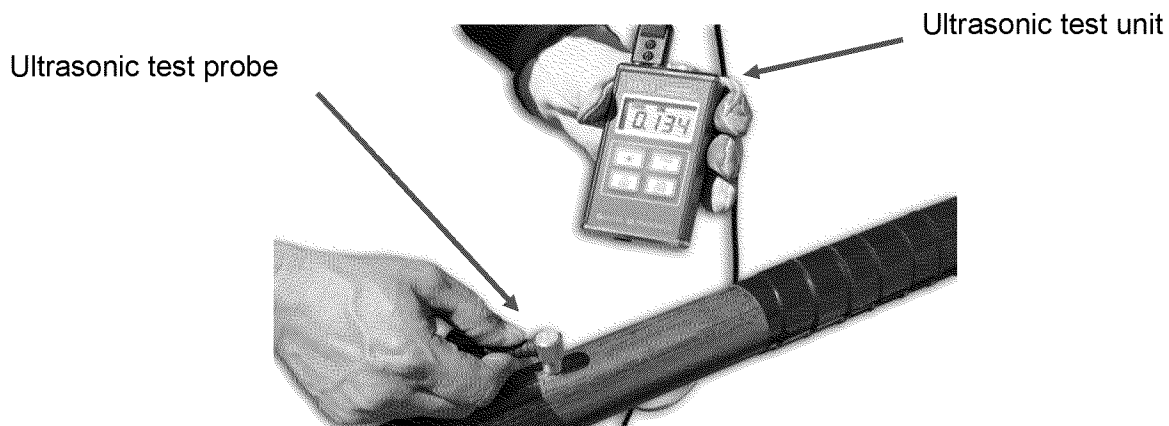

Figure 1. Check Pipeline Wall Thickness
- 1.4 Check steel pipeline wall thickness with an ultrasonic tester. Ensure the wall thickness **does not** exceed 0.280. Refer to Figure 1; "Check Pipeline Wall Thickness" below.